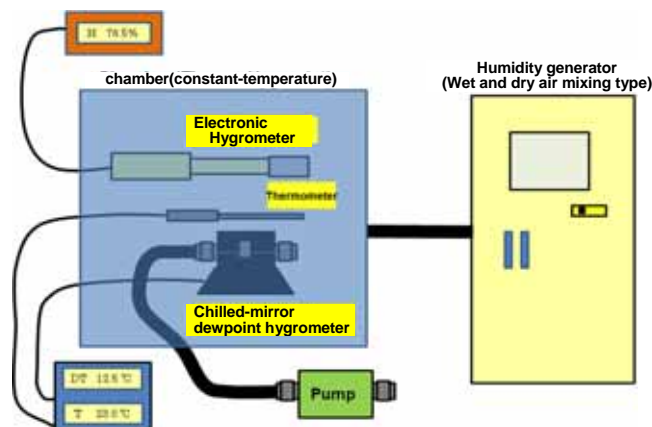

Figure 3.10 Connection diagram (at calibration)
(3) Measurement
- iii. Set up the traveling standard sensor, the thermometer to measure the sample-air temperature and the sensor of the instrument to be calibrated inside a hygrometer calibration chamber. Place all the sensors as close as possible to the center of the chamber (Figure 3.10).